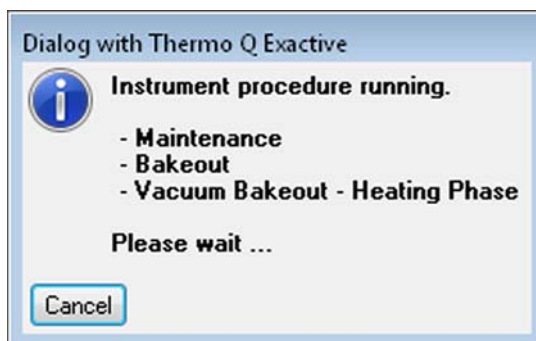

Figure 8-3. Message box: Vacuum Bakeout active
5. The dialog box disappears and the baking procedure starts. The instrument indicates the active bakeout procedure by a flashing Vacuum LED. (See Figure 3-3 on page 3-10.) Additionally, the Tune software displays a corresponding message box. See Figure 8-3.